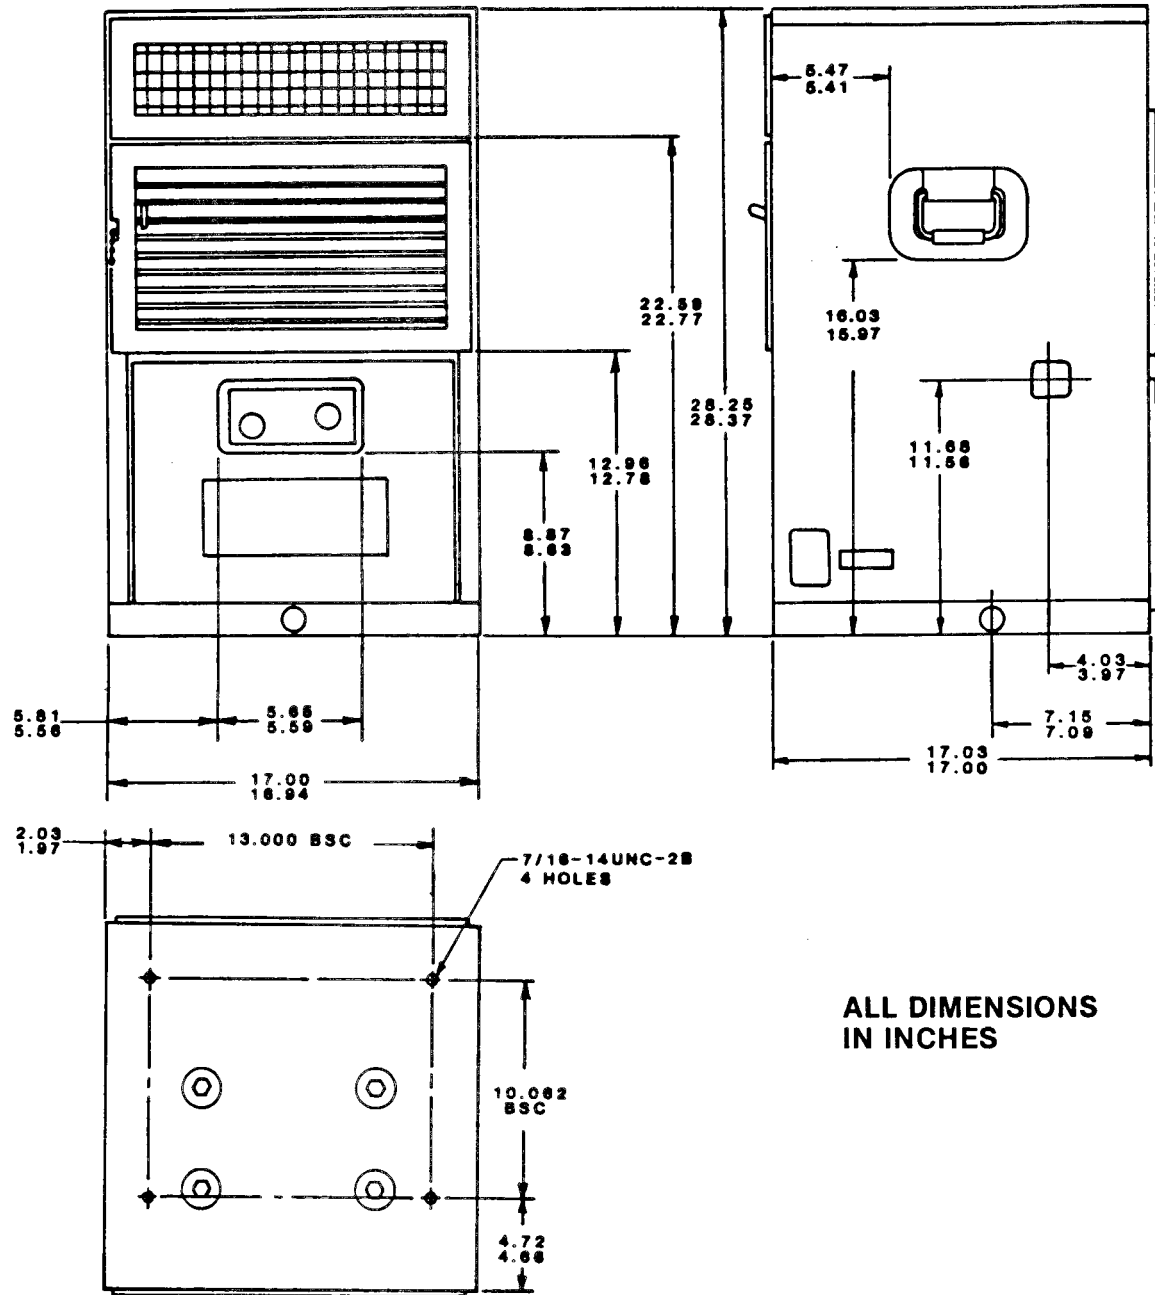

Figure 4-2. installation Dimensions
(1) A relatively level surface capable of bearing the weight of the air conditioner on which to set the base. To insure proper condensate drainage, the surface should be level with 5° from front to back and side to side. See-figure 4-2 for installation dimensions.
(2) An unobstructed flow of air from outside the conditioned area to the inlet and outlet of the condenser.
(3) An unobstructed flow of air from inside the conditioned area to the conditioned air intake and discharge.
(4) An unobstructed flow of air from outside the conditioned area to the fresh air damper intake and/or CBR filter intake, if installed.
(5) Access to the front and back of the cabinet for routine operation and servicing and for necessary maintenance actions.
(6) Access to the top of the cabinet for removal of the top panel and sufficient headroom to allow maintenance actions and internal component removal and installation through the top panel opening.
(7) A source of 115 volt, single phase, 50/60 hertz input power rated at 17.3 amps. The power source outlet should be located as near as possible to the installed location of the air conditioner. The power source wiring must include a disconnect switch. However, provisions should be made to insure that power is not disconnected during normal operation and that the disconnect is not used to turn off the air conditioner for normal shut-down.
(8) An earth ground capable of handling 17.3 amps.
(9) Check that no source of dangerous or objectionable fumes are located near the fresh air intake.
b. Through the wall installation. Prepare an opening in the wall large enough to slide the air conditioner through. (See fig. 4-2.) Consideration should be given to service of internal components. All openings around air conditioner must be sealed air tight.